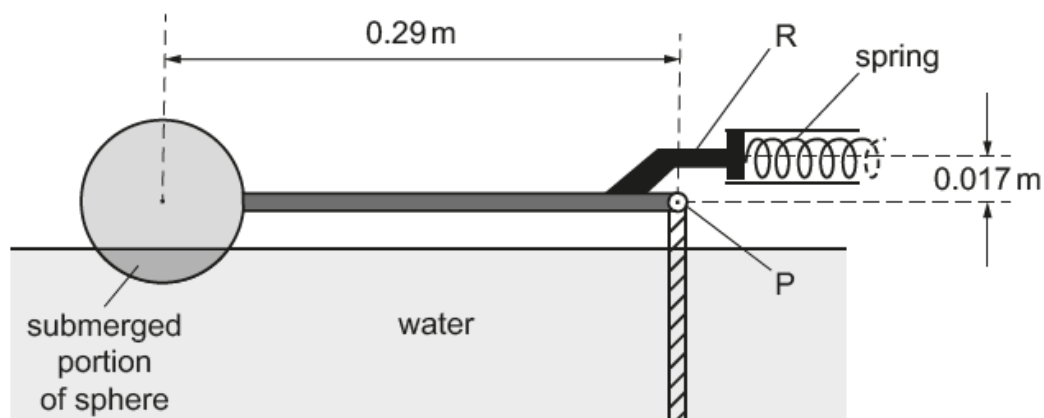

Fig. 3.2 (not to scale)
Water enters the tank and causes the sphere to rise. This results in the bar becoming horizontal. Fig. 3.2 shows the system in its new position.
- (ii) At the position shown in Fig. 3.2, the system is stationary and in equilibrium.
- (d) When the sphere moves from the position shown in Fig. 3.1 to the position shown in Fig. 3.2, the upthrust on the sphere does work.